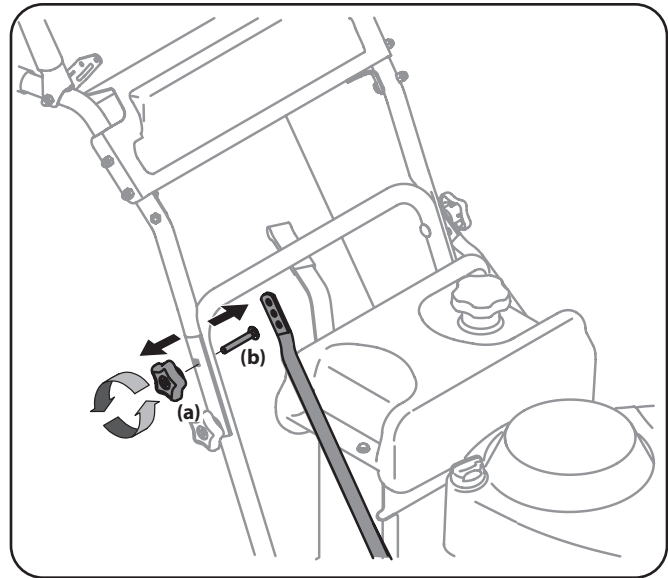

Figure 6-5
- Remove the upper star knob (a) and carriage screw (b) on the right side of the handle and the left side of the handle. See Figure 6-5.